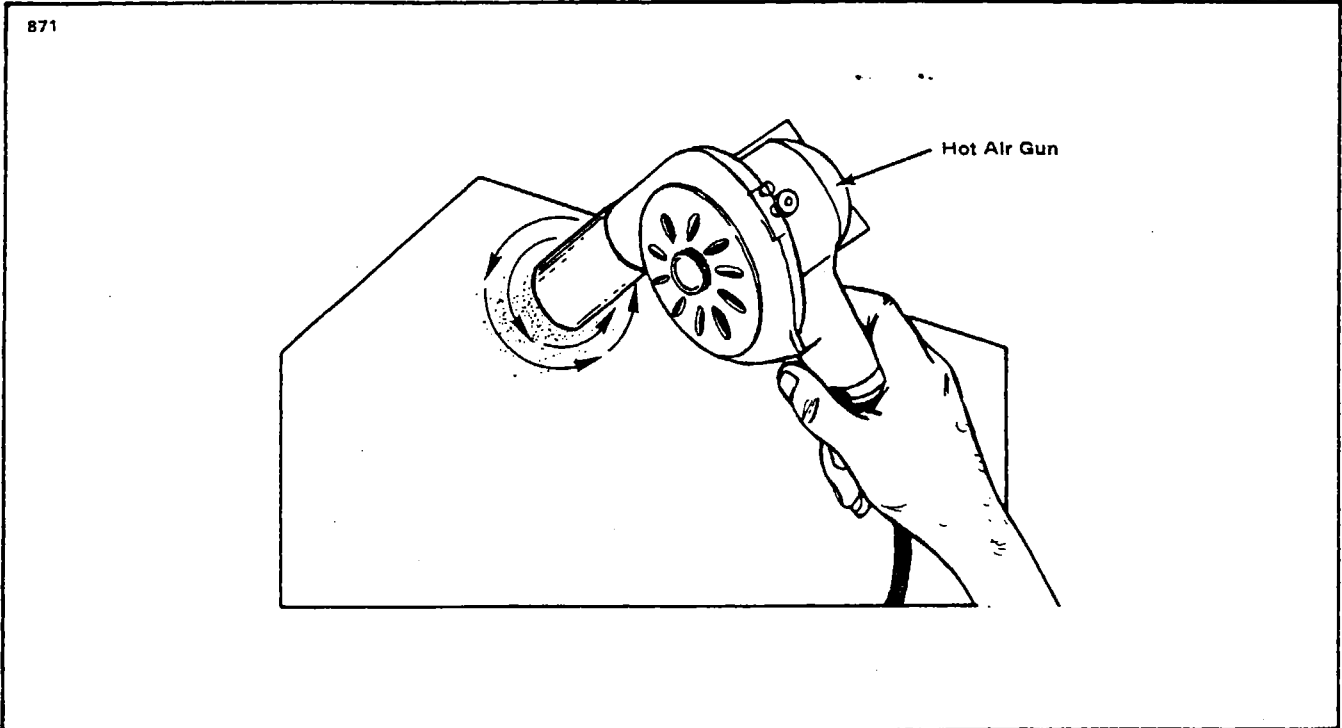

Figure 4-31 Surface Scratches, Abrasions or Ground-in-dirt
b. Surface Scratches, Abrasion or Ground-in-Dirt: (Refer to Figure 4-31.)